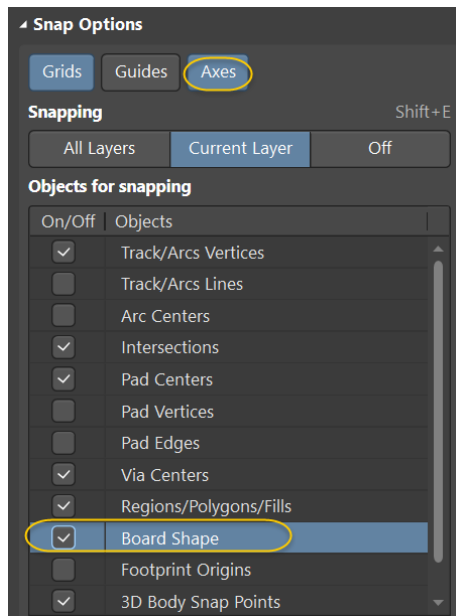

Figure 2. Snapping options in the Properties panel
- b) In the *Objects for Snapping* section just below, enable the **Board Shape** option, both of these options can be found in Figure 2.